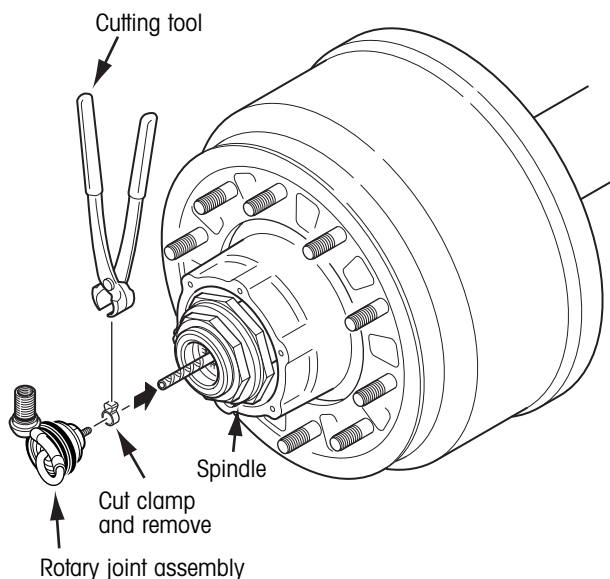

Figure 37. Original style rotary joint assembly removal
- c. Cut the clamp and remove the rotary joint assembly from the braided hose (figure 37).